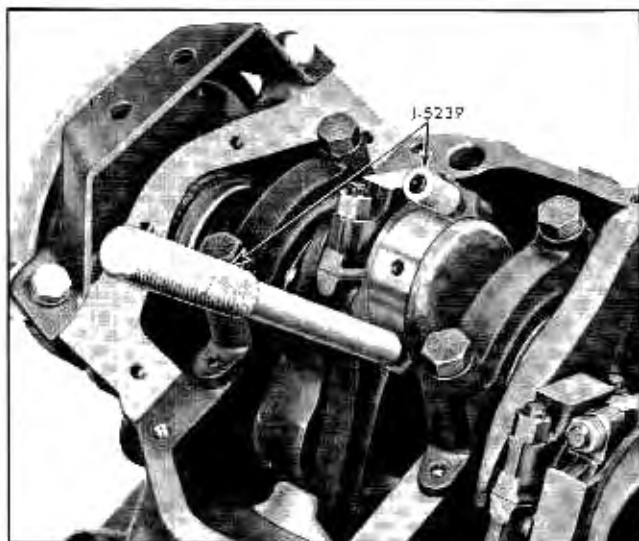

Fig. 6-37 Removing Connecting Rod and Piston Assembly
5. Remove bearing cap and install Connecting Rod Bolt Guide Set J-5239 (Fig. 6-37).
c. Install Connecting Rod Bolt Guide Set J-5239 on connecting rod bolts (Fig. 6-37).